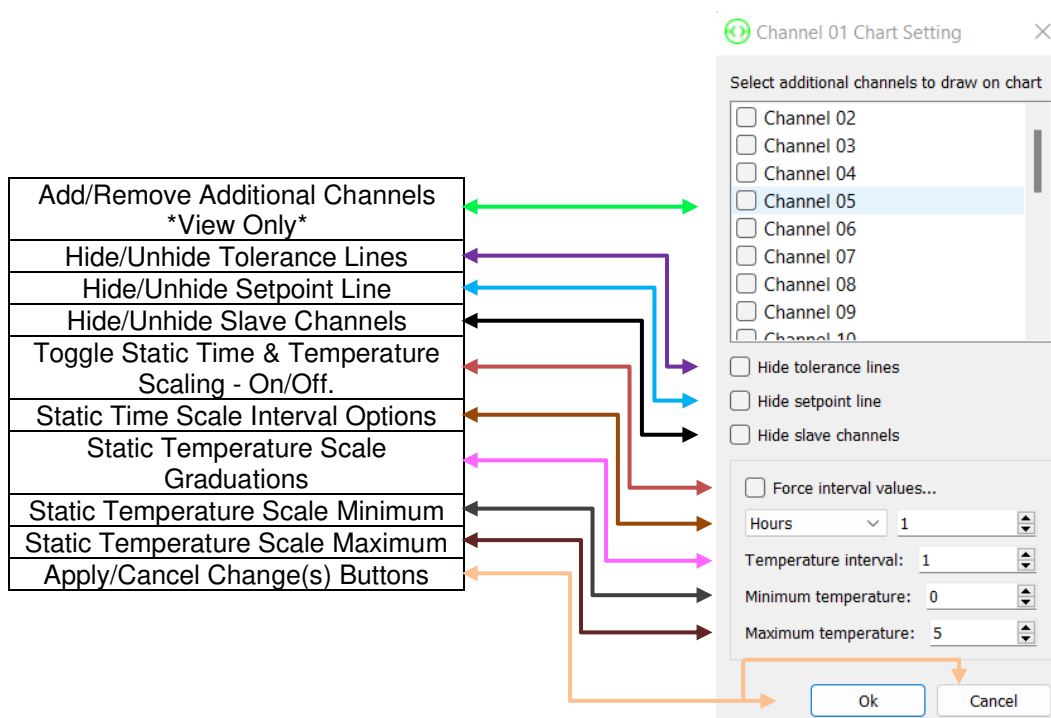

Figure 68: Chart Settings Window - Features
2. In the ‘Select Channel’ window that opened, using the drop-down menu, select which channel you would like to write the recipe to and click the “OK” button highlighted in Figure 68 below.